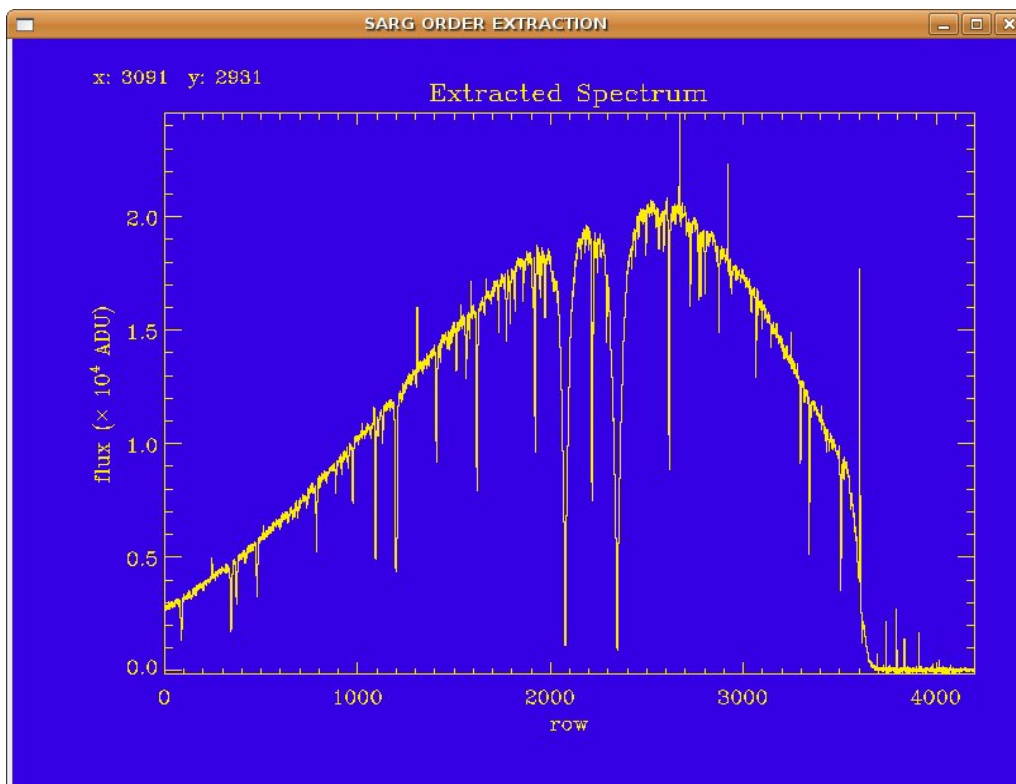

Figure 22. The extracted order
To start the procedure identify the order you want to extract in the main display area then click on the image with the left mouse button to display that area in zoomed image area, then click on the zoomed image area and press 'x' on the order you want to extract. After doing this a window will pop up asking if the observer want to use the extraction parameters used in the last extraction procedure. If the answer is 'yes' then the extraction is done automatically and the extracted order displayed (see Figure 22). If the answer is 'no' then the extraction procedure starts.
4. Extraction of the order: the order is extracted and the results are displayed on the graphic window (see Figure 22). Along the x axis rows are displayed while on the y axis the flux in ADU is displayed.